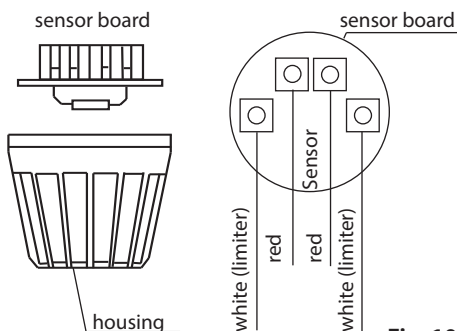

Fig. 10
3. Lead the sensor cable through the drilled hole and connect it to the sensor line according to Fig. 10.
4. The cables for the limiter fuse (white) and the temperature sensor (red) shall be connected to the sensor circuit board as per Fig. 10. Insert the sensor board into the casing.